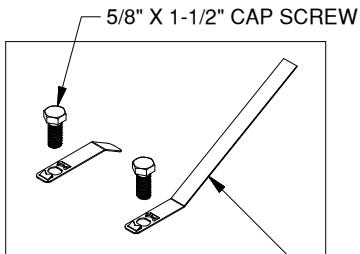

Figure B1: Bolt Guides
- 1. Assemble bolt guides.** Assemble the bolt guides by threading a 5/8" bolt onto each guide as shown in figure B1 and B2. Tighten the bolt onto the guide so that the shoulder of the bolt head is flush with the surface of the bolt guide. This is designed to be a tight fit. A wrench may be needed to thread the bolts onto the bolt guides. The notches of the bolt guides must engage the corners of the bolt head so that the bolt is prevented from "backing off" of the guide. The notches of the bolt guide may have to be pried up if they were smashed down when the bolt was tightened down.